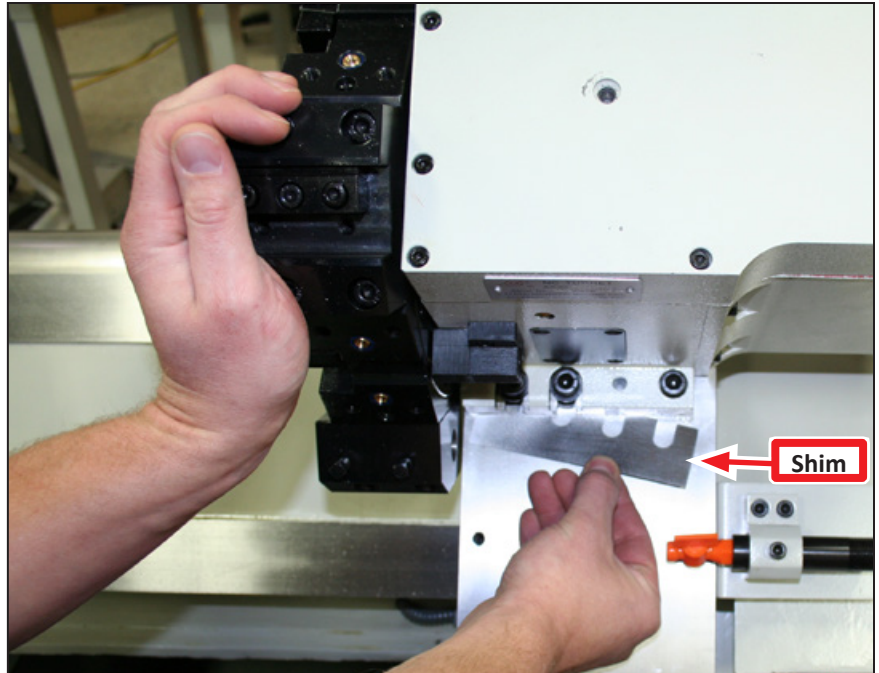
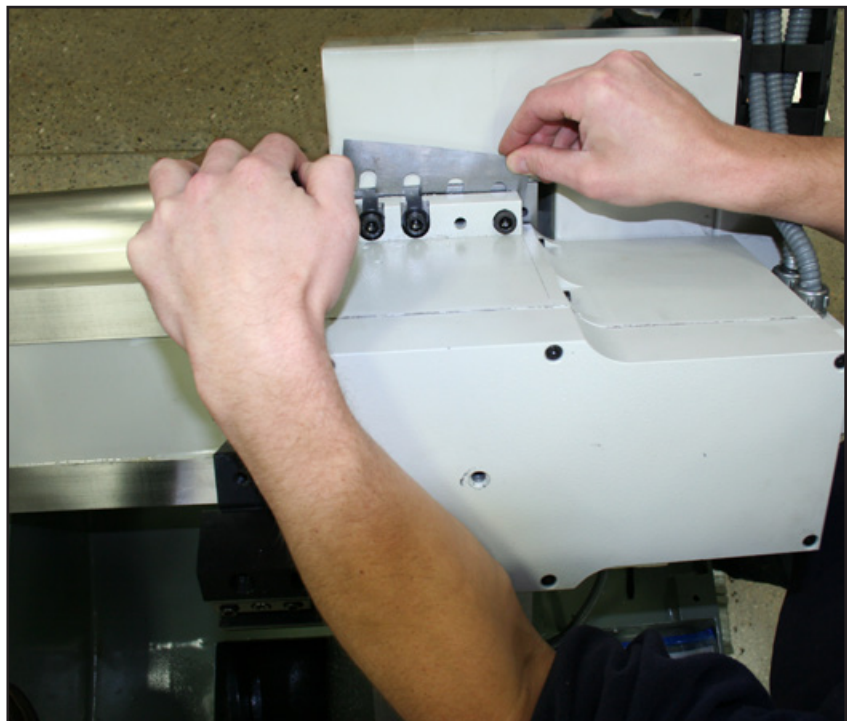

Figure 30
Figure 31
11. Add shims (from the included Shim Kit) to the front and the back of the turret after loosening all six M10 x 30 mm Socket Head Cap Screws (see **Figure 30** and **Figure 31**). To create a gap necessary to add shims to front of turret, push forward on it (see **Figure 30**); insert required shim(s).
12. To add shims to the back of the turret, pull backward on it to create a gap; insert required shim(s) as shown in **Figure 31**.